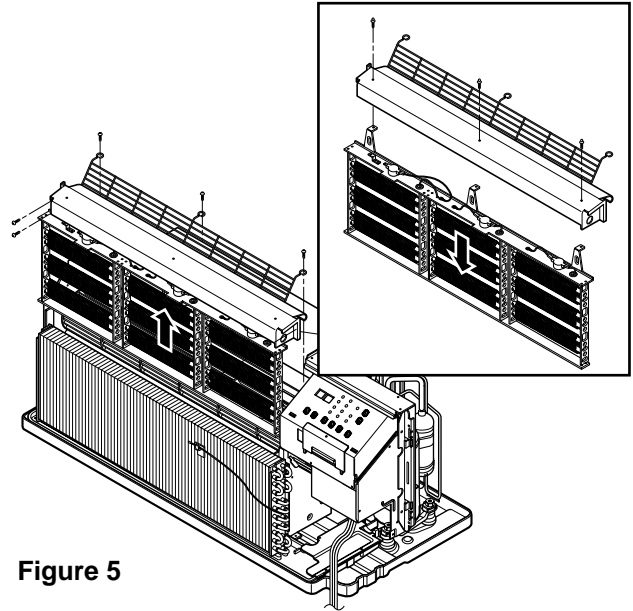

Figure 5
3. Remove the 3 screws which fasten the net steel. (See Fig. 5)
4. Remove the 3 screws which fasten the electric heater assembly. (Electric heater model only) (See Fig.5).